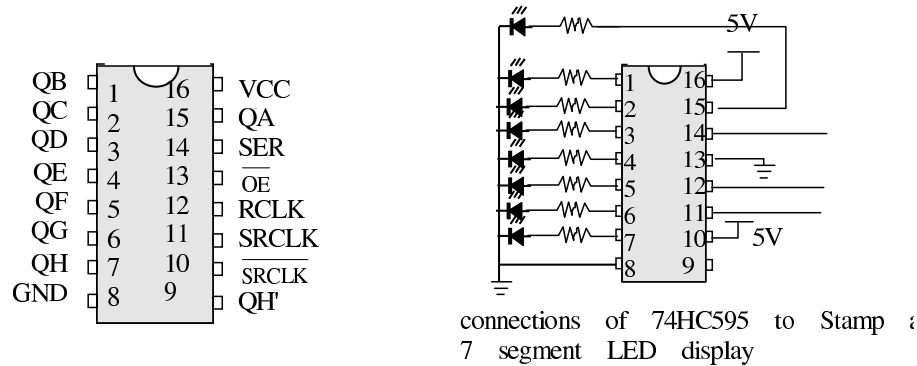

FIGURE 6. Serial-to-Parallel IC chip
3.3. What is a serial-to-parallel device? A serial-to-parallel device accepts a series of timed pulses and latches them onto a parallel array of output pins as shown in figure 1. This lab uses a rather simple integrated circuit (IC) known as an 8-bit serial-in/parallel-out shift register (74HC595) as the serial-to-parallel device. Figure 6 shows the pin out for the IC and shows how to connect the chip to the MicroStamp11 and the LED display.